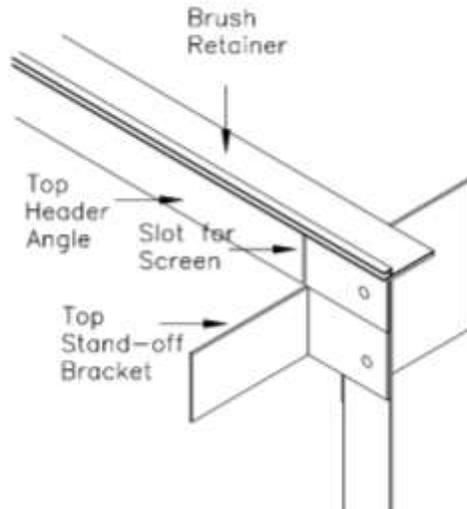

FIGURE 3
5. Next install the top angle to the back of the track assemblies with the horizontal leg of the angle facing the building interior and against the tops of the track assemblies. Use the 1/4-20 x 1" machine screws provided to secure the angle to the track assemblies. The brush retainer should be facing the sectional door. Install the brush seal and crimp down. Ensure the brush seal is the same length and the retainer. (See Fig. 3)
8. Install the nylon clip onto the upper pin of the motor with the short side facing the roll tube. (See Fig. 3).